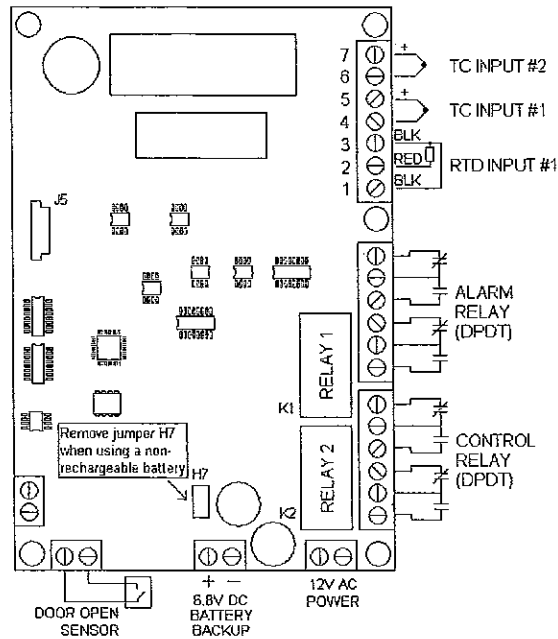

Figure 2.2 Controller Circuit Board
The FDC-4000 controller has been designed to use a type "T" Thermocouple or Platinum RTD (2 or 3-wire) temperature sensor. Figure 2.2 shows the proper connection of the sensors to the controller. The controller will auto-detect which type of sensor is connected to the unit (for Input #1). In order for the controller to do this, the sensor must be connected before power is applied to the controller. Input #1 is used to display PV (on the upper LED display). Input #2 can only be a type "T" Thermocouple sensor. Input #2's temperature value is displayed while in the Factory Mode (prompt IN2). In the event of a sensor break, the display will show "Hi" and the control relay output will remain energized.
Connection to the control relay is made using the screw clamp terminal blocks provided on the controller circuit board (Figure 2.2). The control relay is a "double pole / double throw" (DPDT) configuration. The normally open (NO) and normally closed (NC) configuration when the control relay output is not energized is shown in Figure 2.2. The control relay will energize when the process value is at or above the set-point value. The control relay will de-energize when the process value is at or below the set-point value minus the control hysteresis (prompt OHY). The control relay will also de-energize when the controller is operating on battery power. The control relay is a latching type relay which means that the contacts will remain in their present state (open or closed) even when all power is removed from the controller.
Connection to the alarm relay is made using the screw clamp terminal blocks provided on the controller circuit board (Figure 2.2). The alarm relay is a "double pole / double throw" (DPDT) configuration. The normally open (NO) and normally closed (NC) configuration when no alarm condition is present is shown in Figure 2.2. The alarm relay will be energized when the process value is outside of the deadband temperature for the set-point or when the controller is operating on battery power. The alarm relay is a latching type relay which means that the contacts will remain in their present state (open or closed) even when all power is removed from the controller.
The FDC-4000 controller can be used to detect when the door to the chamber is open. A simple on/off switch is connected to the "door sensor" screw clamp terminal block shown in Figure 2.2. When the switch is opened, the audible alarm will give short, quick "chirps" to indicate that the door is open. If this feature is not needed, simply place a wire jumper between the two terminals.